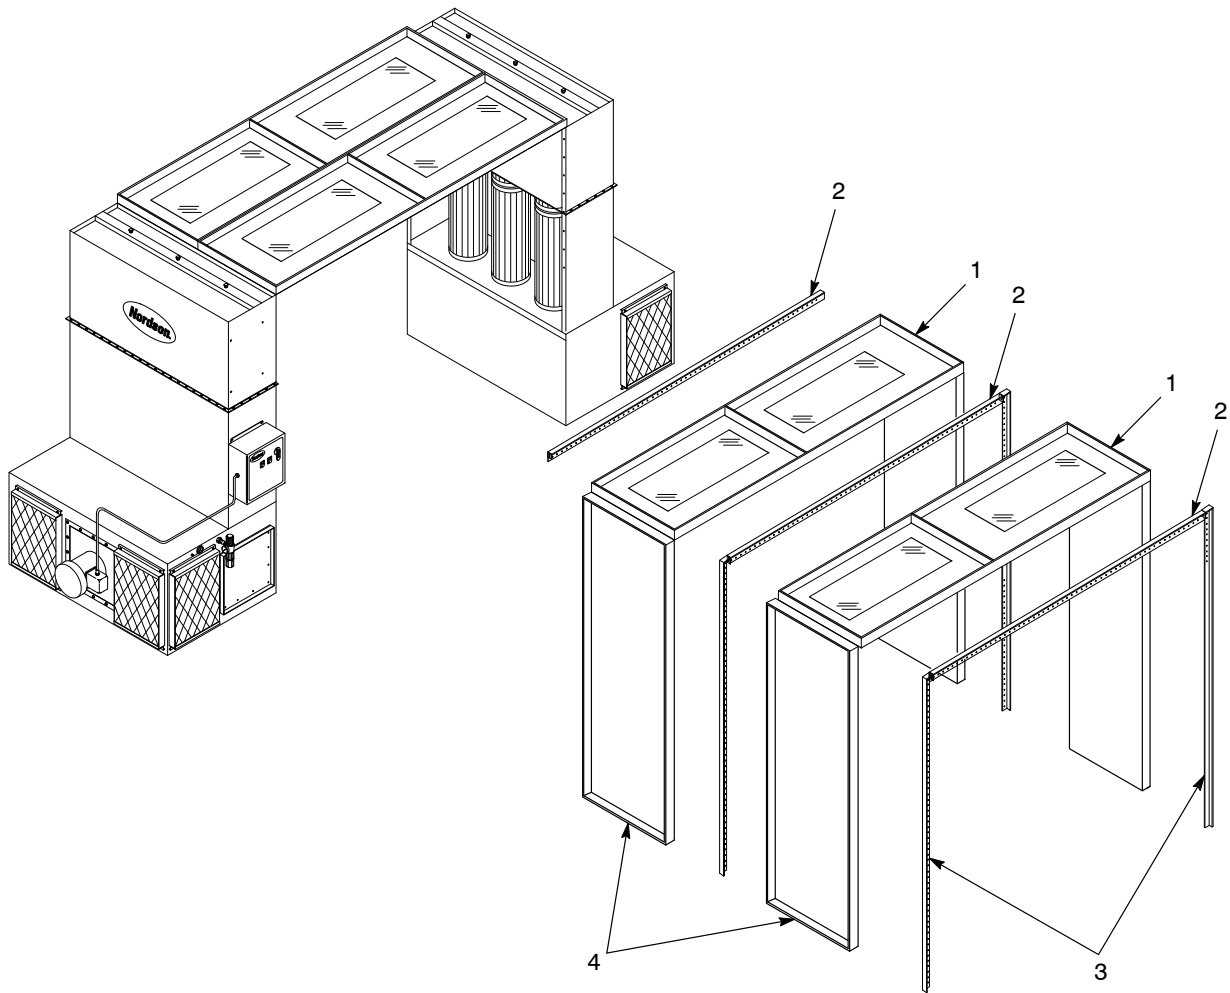
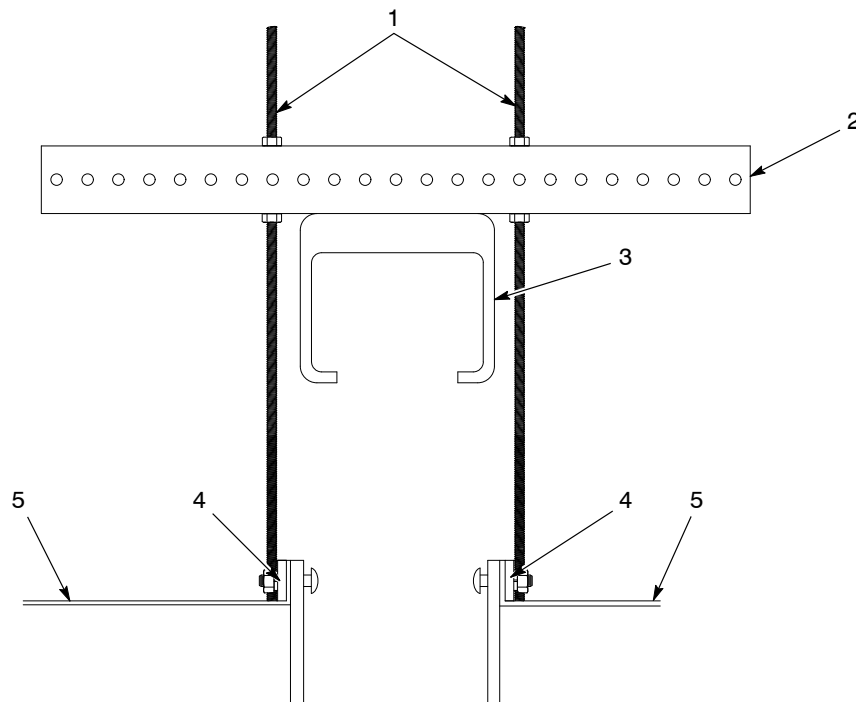

Figure 4-1 Batch Booth Roof Supports (Typical)
Figure 4-2 6000C3–6000C9 Conveyor Booth Roof Support Installation
See Figure 4-1.
3. See Figure 4-1. Install the roof panels using the following guidelines:
- **Batch booths:** Assemble the brackets to the top of the wall panels. Install the roof panels (1) as shown in the assembly drawings.
4. **6000C3–6000C9 conveyor booths only:** To prevent the roof from sagging, install the roof support assembly in the middle of the roof. See Figure 4-2.
- a. Rest the roof support horizontal tube (2) on top of the conveyor (3).
- b. Adjust the vertical threaded rods (1).
- c. Bolt the horizontal ends (4) of the rods to the roof panel flanges (5).